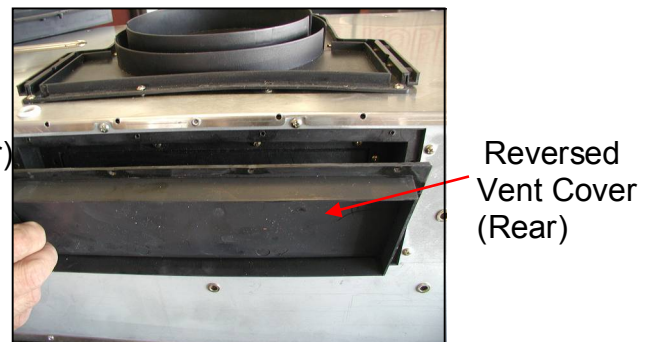

Figure 24
- Cut the vent cover (rear) opening and reverse to the other side. Refer to Figure 24.